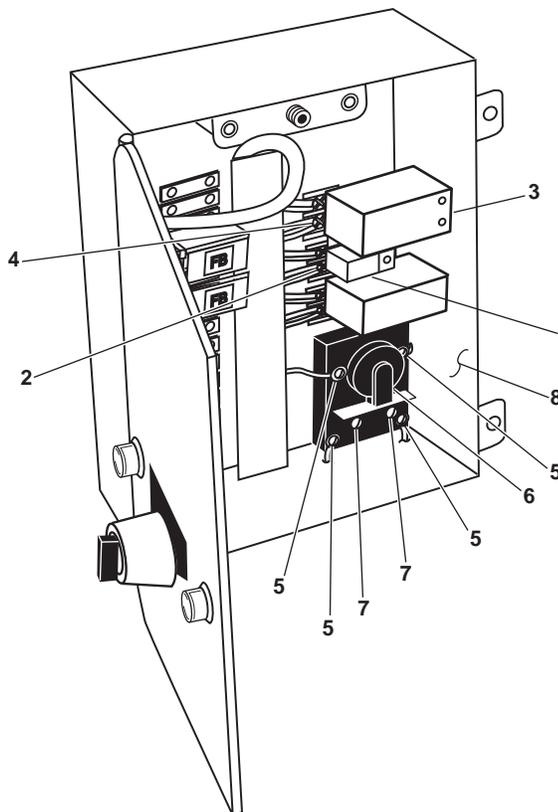

Figure 2. Solid State and Electro Magnetic Relay Removal
3. Remove the electro magnetic relay (figure 2, item 1) by pulling it straight out of its socket (figure 2, item 2).
1. Install the electro magnetic relay (figure 2, item 1) by lining up the pins and gently pushing it into the socket (figure 2, item 2).
3. Remove the solid state relay (figure 2, item 3) by pulling it straight out of the socket (figure 2, item 4).
1. Install the solid state relay (figure 2, item 3) by lining up the pins and gently pushing it into the socket (figure 2, item 4).
3. Label and disconnect the wiring (figure 2, item 5) from the electro magnetic relay (figure 2, item 6).
4. Remove the two screws (figure 2, item 7) from the electro magnetic relay (figure 2, item 6).
5. Remove the electro magnetic relay (figure 2, item 6) from the OWS control box (figure 2, item 8).
1. Position the electro magnetic relay (figure 2, item 6) in the OWS control box (figure 2, item 8) and secure it with the two screws (figure 2, item 7).
2. Connect the wiring (figure 2, item 5) to the electro magnetic relay (figure 2, item 6) using the labels from step 3 of Removal as a guide.
3. Remove the labels from the wiring (figure 2, item 5).